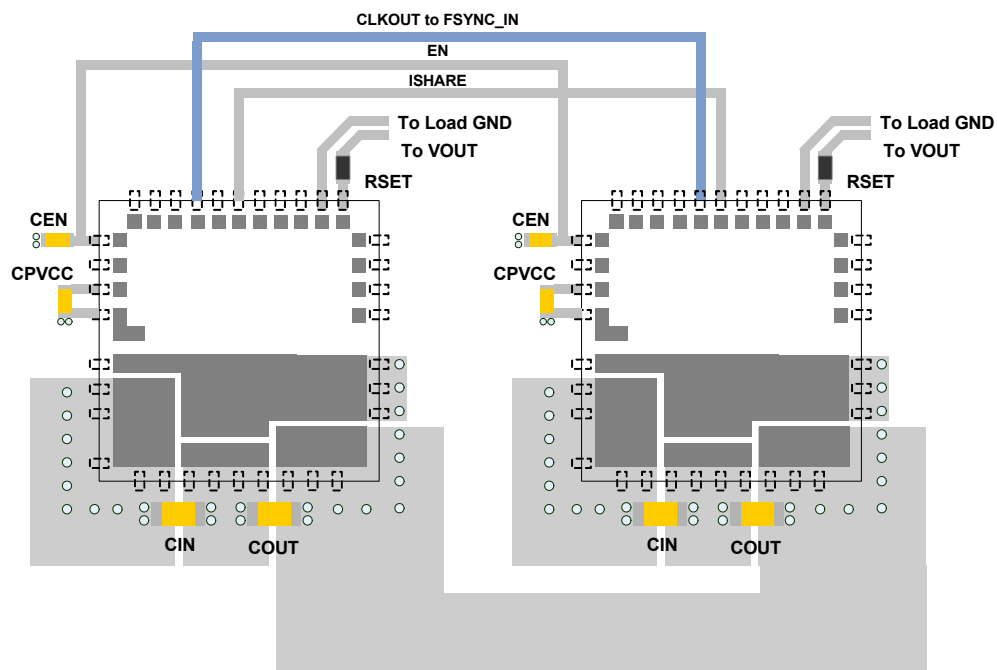

FIGURE 35. RECOMMENDED LAYOUT FOR DUAL PHASE SETUP
- Place modules such that pins 1-11 point away from power pads (PD1-4) so that signal busses (EN, ISHARE, CLKOUT-to-FSYNC_IN) can be routed without going under the module. Run them along the perimeter as in Figure 35.
- Keep remote sensing traces separate, and connect only at the regulation point. Four separate traces for VSEN_REM- and RSET, as in the example in Figure 35.